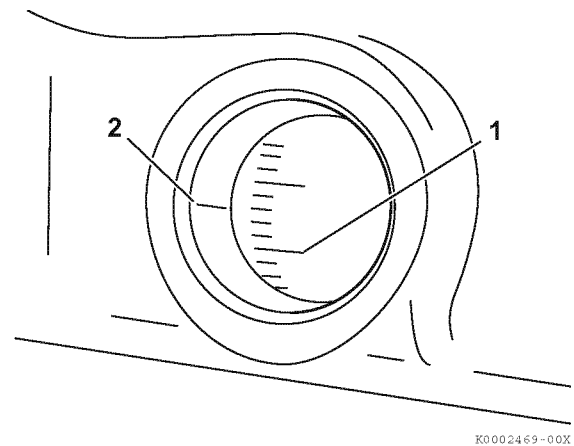

Figure 7-24
2. Determine if the timing is “advanced” or “retarded” by comparing the position of the target timing mark on the flywheel grid (**Figure 7-24, (1)**) with the timing mark on the flywheel housing or back plate (**Figure 7-24, (2)**).